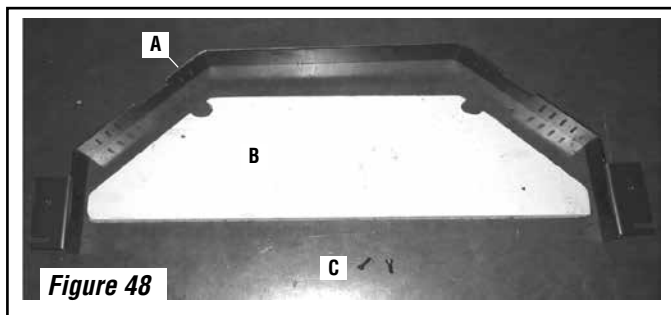

Figure 49
1. **Install the 2" lower trim piece** - Fasten the 2" trim piece underneath the base of the front of the insert as follows; use a 5/32" allen wrench or T-handle wrench to secure the 2 screws (see C in **Figure 48**) provided, one at the left side and one at the right side base of the insert. **NOTE:** This process will be simplified by very cautiously tilting the insert back (see **Figure 49**).